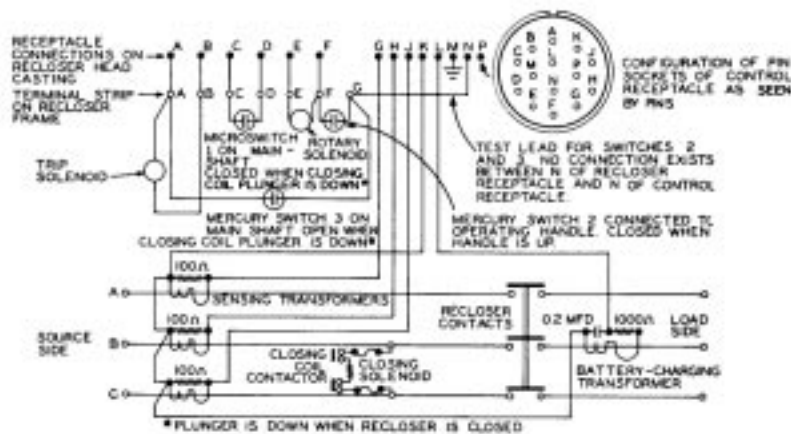

Figure 31
2. Check current through control-cable receptacle sockets K-G, K-H, and K-J as identified in figure 31. For each sensing bushing CT checked, the milliammeter should indicate 100 milliamperes, + 10 percent. BE SURE TO ALLOW FOR TOLERANCES OF METERING EQUIPMENT. The resistance of certain types of meters is not negligible. It may be necessary to use the 0-100 milliamperes scale, with its lower resistance, rather than the 0-100 milliamperes scale.
2. Energize a-c test current. Check for 300-ma reading at sockets K and J. Results can indicate either (a) all three bushing current transformers have the same polarity - 300-ma reading, or (b) one bushing current transformer has polarity opposite remaining two—100-ma reading. Should one transformer possess opposite polarity, be sure to refer to the circuit of figure 31 as a guide during further trouble shooting.